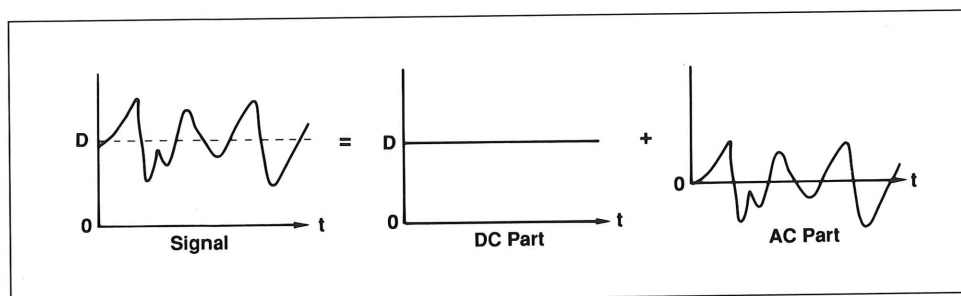

Figure 1. Representing a signal as a DC plus AC part.
Any signal can be represented as a DC voltage plus an *alternating current* (AC) voltage. Because AC signals switch polarity with the passage of time, they can only be time-varying. The DC component, on the other hand, is by definition, constant: it is the amount by which the average value of the AC component is shifted from zero volts. This is shown graphically in Figure 1. Hereafter, we'll deal only with AC signals remembering that we can shift them as needed by simply adding a DC voltage.